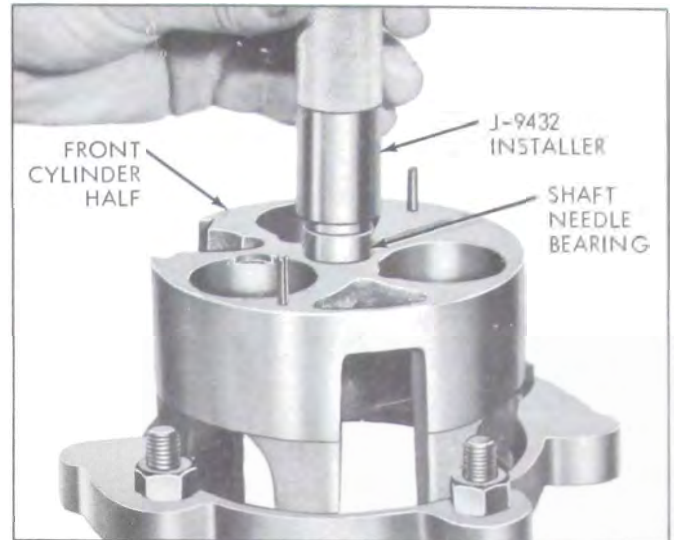

Figure 11-68—Installing Shaft Needle Bearing
16. Examine the shaft needle bearings. There is one in each cylinder half. If a bearing is damaged, remove bearing with a suitable socket or punch. Install new bearing with J-9432 so that lettering on bearing is toward outside of cylinder half. See Figure 11-68.